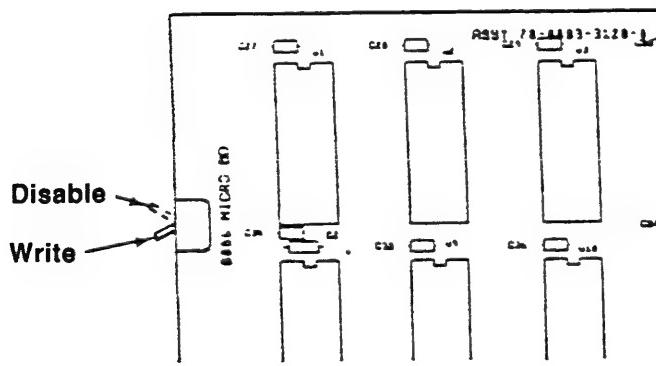

Figure 2-7.3A
1. Press 3597 L 7000 L on the M-656 Keyboard. The first parameter (000) and the value stored for it (0012, for Mode 12) will be displayed.
- a. Switch the Write/Disable Switch on the Micro PCB to the Write (down) position (Figure 2-7.3A).